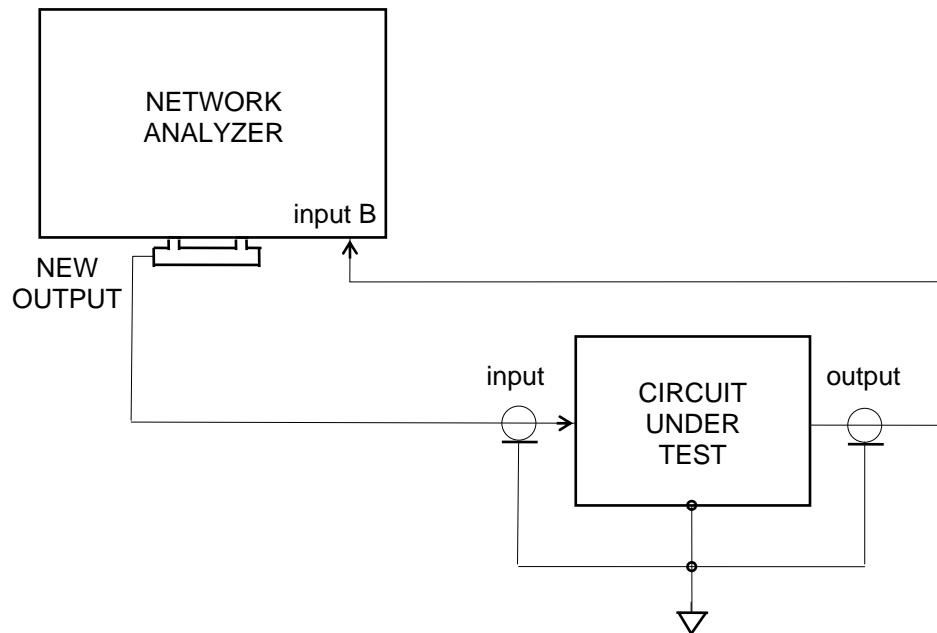

Figure 2. Circuit connection for frequency response measurement.
- b. Connect your circuit to the network analyzer as shown in Figure 2 below.